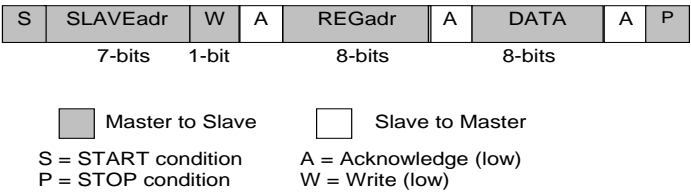
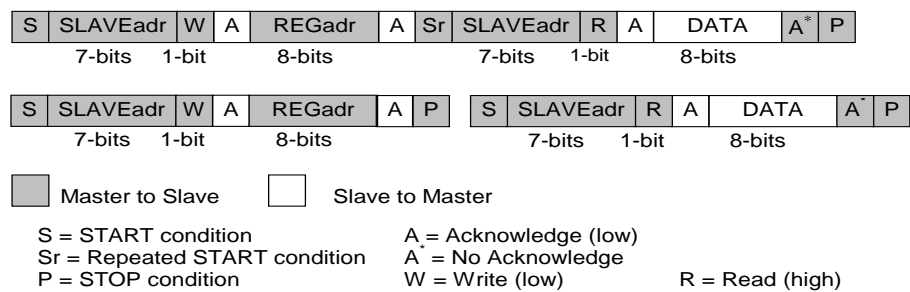

Figure 18: I2C Byte Write (SDA Line)
Figure 19: I²C Byte Read (SDA Line) Examples
The I2C bus is monitored for a valid slave address whenever the interface is enabled. It responds immediately when it receives its own slave address. The acknowledge is done by pulling the SDA line low during the following clock cycle (white blocks marked with A in Figure 18 and Figure 19).
The protocol for a register write from master to slave consists of a START condition, a slave address with read/write bit, and the eight-bit register address followed by eight bits of data, terminated by a STOP condition. DA9217 responds to all bytes with acknowledge (A), see Figure 18.
When the host reads data from a register it first has to write to DA9217 with the target register address and then read from DA9217 with a repeated START, or alternatively a second START, condition. After receiving the data, the host sends no acknowledge (A\*) and terminates the transmission with a STOP condition, see Figure 19.